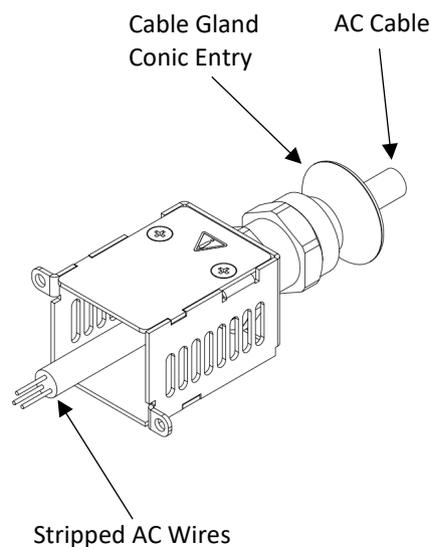

Figure 4-18: Stripped Wires Inserted Through
5. Insert the AC cable through the conic cable gland entry and the strain relief bracket as shown in Figure 4-18 (4-wires are shown, it applies to 1-Phase, 3-wires as well).